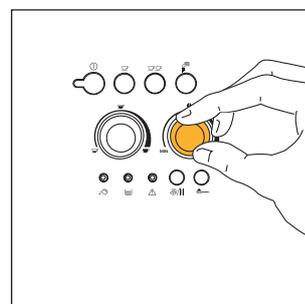

Fig.7
- 2) Adjust the right-hand knob (Fig. 7) to set the desired taste of the coffee. Turning the knob clockwise increases the quantity of coffee beans that the machine will grind, and thus makes the taste of the coffee stronger. When using the machine for the first time, the correct position of the knob can be found by trial and error. Make sure not to turn it too far clockwise, otherwise the coffee will be delivered too slowly (in drops), above all when preparing two cups of coffee.
NOTE 2: *If the coffee is delivered too fast and is not creamy enough, turn the right-hand knob (fig. 7) clockwise. Proceed by trial and error to find the correct position of the knob. Make sure not to turn the knob too far clockwise, otherwise the delivery may become too slow (in drops), above all when making two cups of coffee. If, after several coffees, the cream is still not satisfactory, also turn the grinding adjustment knob (Fig. 17) one click clockwise (see par. 6).*